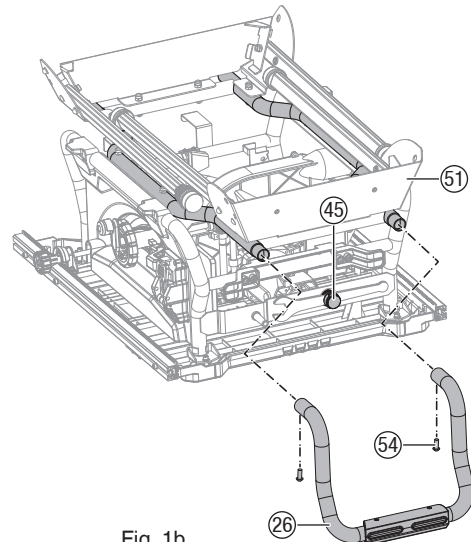

Fig. 1b
- Attach the tubes of the stand support assembly (26) with the corresponding tubes (located on side of blade wrench storage (45)) on the stand assembly (51) and align the holes. Insert the flat round head screws M8 x 10 (54) into the hole and tighten with 5mm hex key. (Fig. 1b)